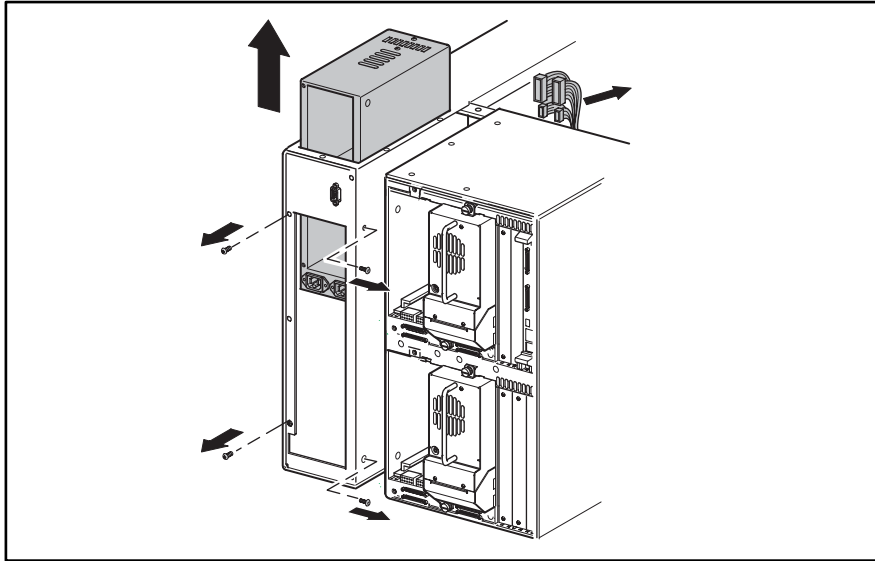

Figure 3–22: Power supply receiver removal
2. At the rear of the library, install the five mounting screws on the rear of the power supply receiver bay (see Figure 3–22).
3. At the side of the library, install the two mounting screws (see Figure 3–22).